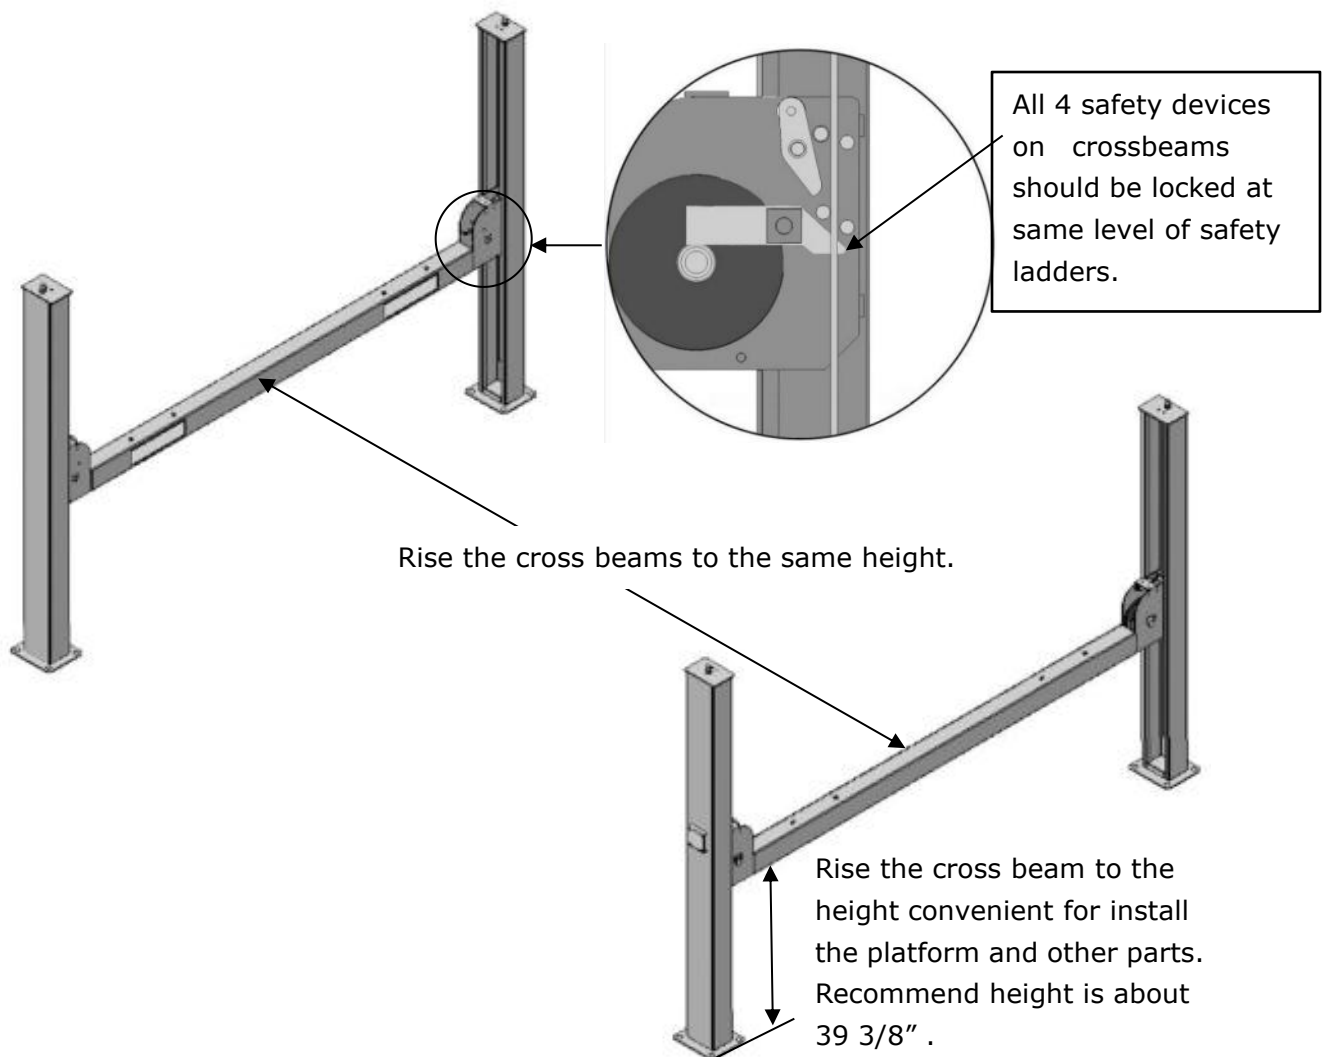

Fig.20
G. Put the cross beams at the same height (See Fig. 20).